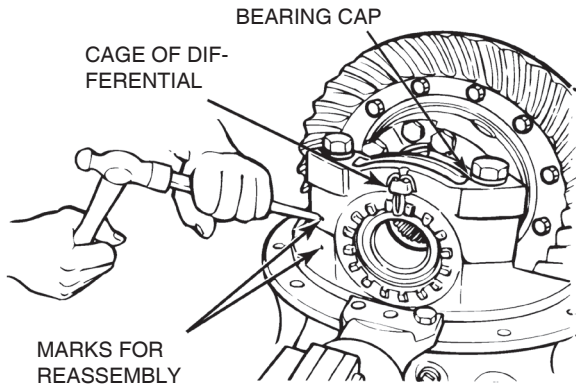

Figure 3.41
2. Use a punch and hammer to mark the position of each bearing cap. The marks help you correctly match the bearing cap during reassembly. Figure 3.41.